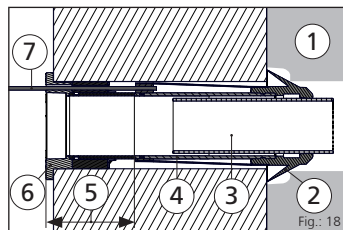

Fig.: 18
- The quick tensioning device can be used to position the driving pipe (see Fig. 18).
Legend for Fig.: 18